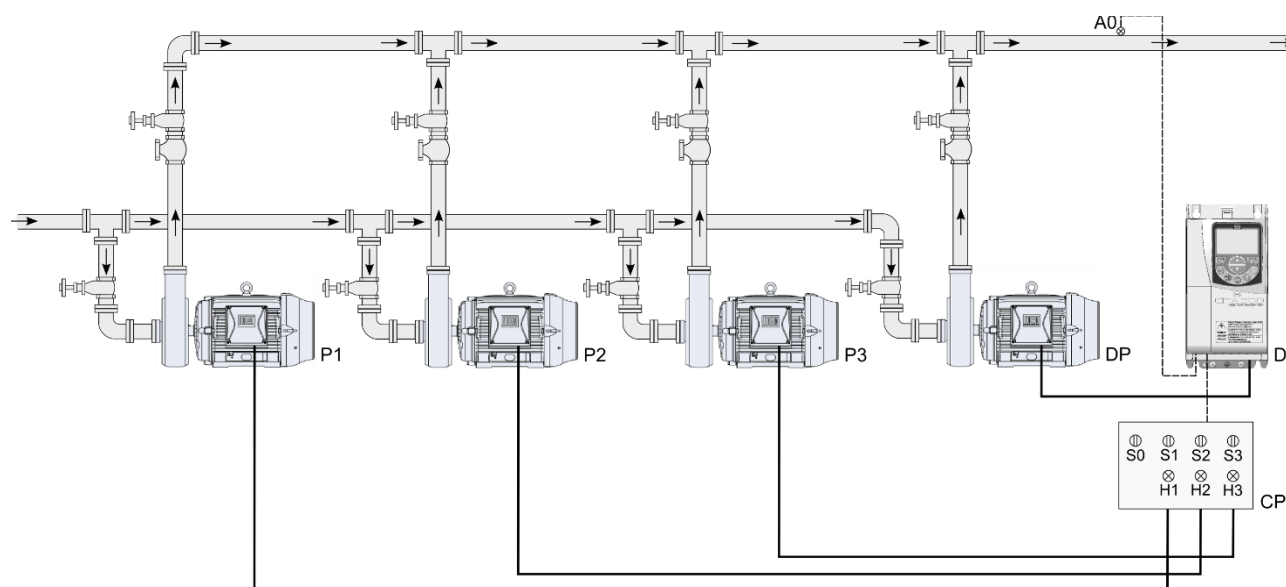

Figure 2.15 – Pump Genius Multipump application with fixed control, four pumps in parallel and control setpoint via HMI
The figure 2.15 presents a typical system with four pumps in parallel and control setpoint via HMI basically composed of:
The pumps 1 to 3 can be driven by contactors (direct on line or star delta start), softstarter, intelligent relays, etc. The signals H1, H2 and H3 are not necessary for the operation of the Pump Genius Multipump with fixed control, 3 pumps in parallel and control setpoint via HMI, because they only serve to indicate the operating condition of the pumps on the command panel (CP). In the figure 2.15, the signals H1, H2 and H3 come from auxiliary contacts of contactors K1, K2 and K3 which start the pumps 1, 2 and 3.